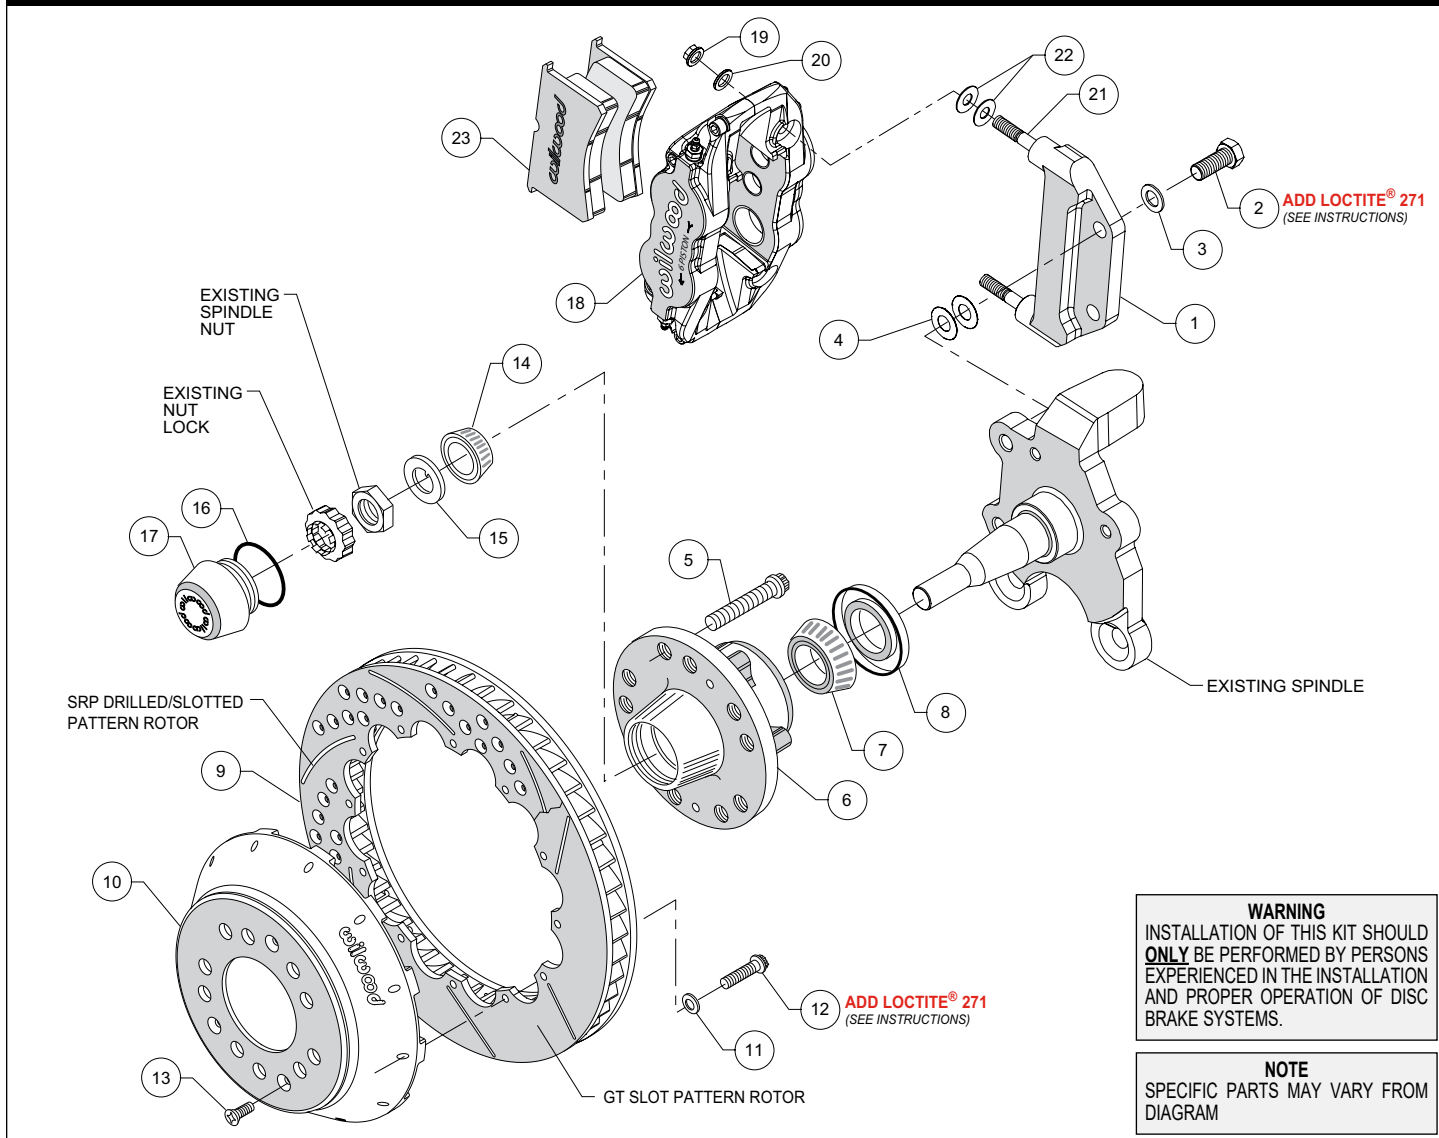
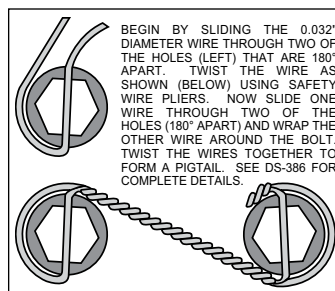

Figure 1. Typical Installation Configuration
Figure 3. Safety Wire Diagram
Assembly Instructions (numbers in parenthesis refer to the parts list on the preceding page, and Figure 1):
- The caliper mount bracket (1) should initially be installed with clean, dry threads on the mounting bolts. Orient the bracket as shown in Figure 1, and install using bolts (2) and washers (3). Initially place two .015" thick shims (4) on each bolt between the bracket and upright, Figure 1 and Photo 1. Temporarily tighten the mounting bolts. **NOTE: The bracket must fit squarely against the mount bosses on the upright.** Inspect for interference from casting irregularities, machining ridges, burrs, etc. Later, after the caliper alignment has been checked, the mount bolts will be secured using red *Loctite*® 271.
- Pack the large inner bearing cone (7) with high temperature disc brake bearing grease (available from your local auto parts store) and install into the backside of the hub (6), Photo 3.
- Install the grease seal (8) by pressing into the backside of the hub (6), flush with the end of the hub, Photo 3.
- Orient the rotor (9) and the hat (10) as shown in Figure 1 and Photo 4. Attach rotor to hat using bolts (12) and washers (11). Apply red *Loctite*® 271 to the bolt threads and torque to 155 **in-lb** using a criss-cross pattern. For an added measure of security, the bolts may be safety wired using standard 0.032 inch diameter stainless steel safety wire as shown in Figure 3. Refer to Wilwood's data sheet DS-386 (available at www.wilwood.com/Pdf/DataSheets/ds386.pdf) for complete safety wire installation instructions.
- Slide the hat/rotor assembly (9/10) onto the hub (6) taking care to align the small countersunk holes in the hat (10) with the small threaded holes in the hub. **NOTE:** The hat must fit flush against the hub face or excessive rotor run out may result. Install three flat head screws (13) through the small holes in the hat (10), Photo 6, and torque to 85 in-lb.
- NOTE:** This kit contains distinct right and left hand calipers that must be mounted in a specific direction, as described below. Initially place two .035" thick shims (22) on each stud (21) between the caliper and the bracket, as shown in Figure 1 and Photo 7. Mount the caliper (18) onto the bracket (1) using lock nuts (19) and washers (20), Figure 1. Ensure that the caliper is mounted so the largest pistons are at the rotor exit end of the caliper, in relation to the direction of rotor rotation. Temporarily tighten the lock nuts and view the rotor through the top opening of the caliper. The rotor should be centered in the caliper, Photo 8. If not, adjust by adding or subtracting shims (4) between the bracket and the upright. Always use the same amount of shims on each of the two mounting bolts. Once the caliper alignment is correct, remove the bracket mounting bolts one at a time, apply red *Loctite*® 271 to the threads, and torque to 65 ft-lb.